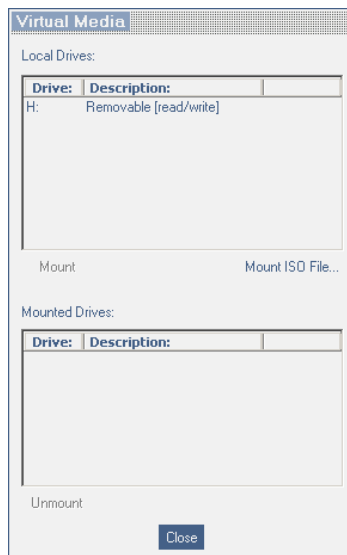

Figure 21 Virtual Media
1. Click Virtual Media, the Virtual Media dialog box appears, see Figure 21. All connected mass storage devices appear in the Local Drives section.
3. Click **OK**. The device mounts onto the Target Server and appears as a removable or CD/DVD drive of the Target Server. It also appears in the Mounted drives section in Figure 21. Once mounted, you can use the device during the remote session as if it is connected to the Target Server.